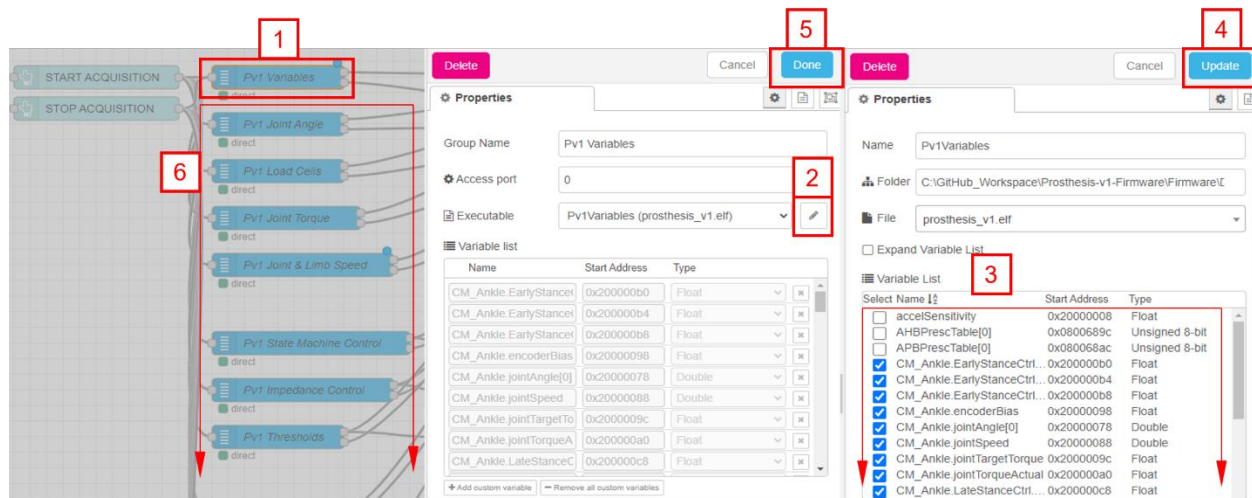

Figure 5. Steps for updating CubeMonitor after builds.
CubeMonitor works off memory addresses. After builds memory addresses can change. Fig. 5 shows steps for updating CubeMonitor to grab the current memory addresses. Detailed instructions are discussed below.
6. Repeat for all remaining variable blocks (including those not shown in Fig. 5). If all CM_ variables in Step 3 were checked, then you can skip Step 3 for all remaining variable blocks.